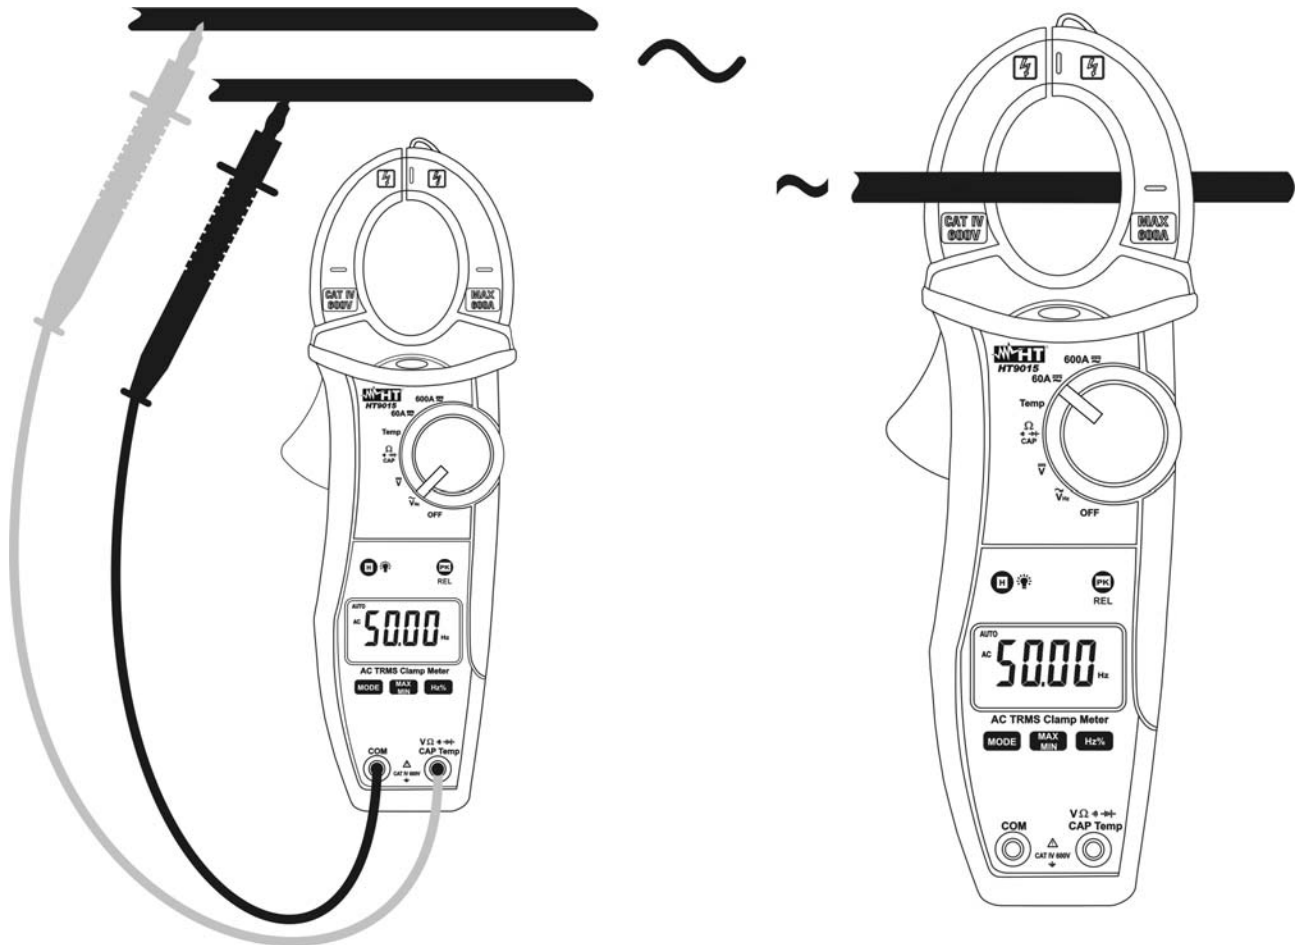

Fig. 10: Taking frequency and duty cycle measurements
3. Insert the red test lead plug into **VΩHz%Temp** jack and the black test lead plug into **COM** jack (see Fig. 10 – left side) for frequency measurement with test leads. Open the clamp and put the conductor to be tested in the middle of the clamp jaw (see Fig. 10 – right side) for frequency measurements with jaws, then reading will be displayed. Bargraph is disabled in frequency and duty cycle test